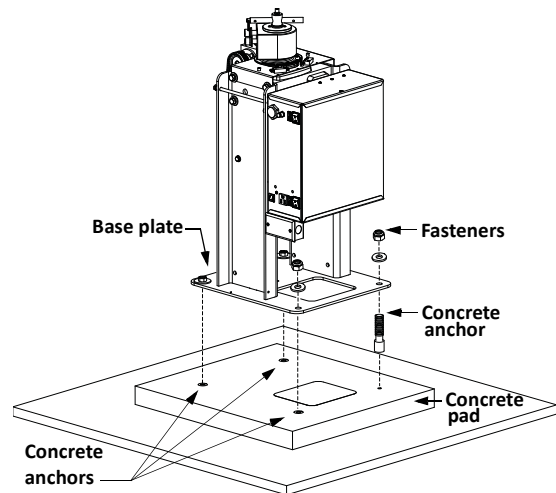

Figure 1-6.
4. Mount the operator with four ½ x 3½-inch concrete anchors as shown in Figure 1-6.